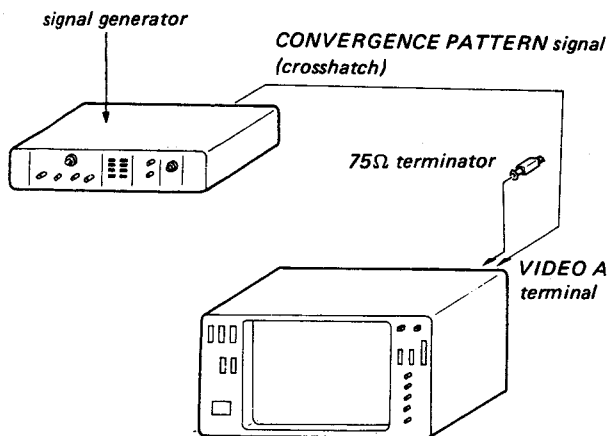

Fig. 5-151.
1. Complete the connections as shown in Fig. 5-151 and turn on the power of this monitor.